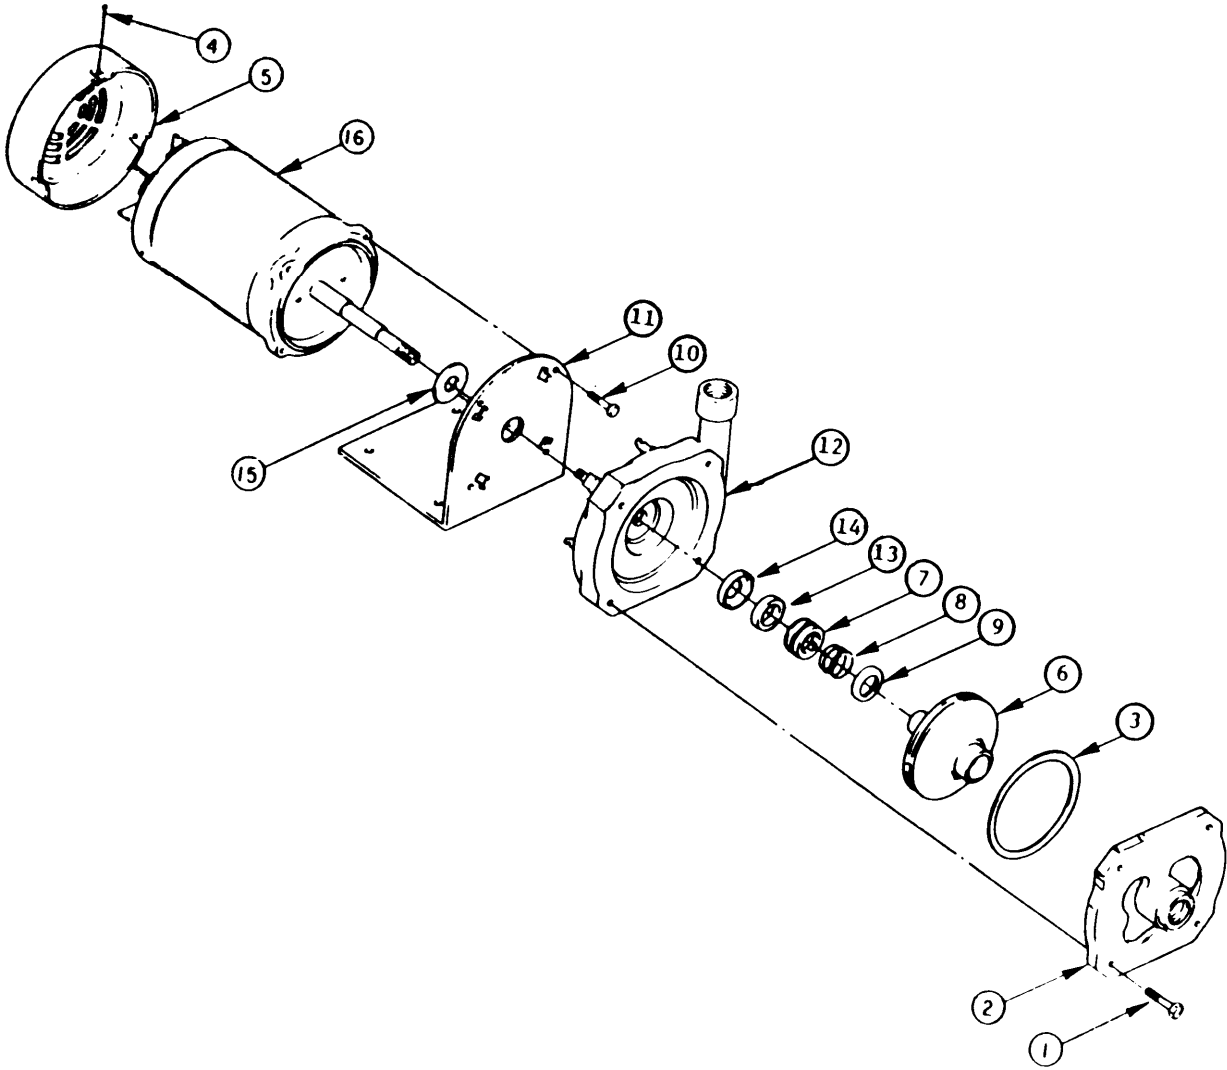

Figure 3-36. Booster Pump/Distribution Pump
b. Disassembly. (Figure 3-36)
(1) If necessary, see paragraph 2-49 to remove booster pump from ROWPU frame or paragraph 2-42 for removal of distribution pump.
- (1) Replace all gaskets, Wings, mechanical seal, stationary seat, stationary seat gasket, and pump slinger.
- (2) Replace all damaged nuts, bolts, screws, and washers.
- (3) Replace all damaged, fractured, or worn springs and spring retainers.
- (4) Repair pump bracket by welding cracks and fractures, or replace bracket if badly damaged.
- (5) Retap threads in suction cover, pump casing, and motor assembly, or replace component part if badly damaged.
- (6) Replace unrepairable pump impeller.
- (7) Repair pump motor assembly in accordance with paragraph 3-10.
- (8) Send unrepairable pump assembly and all replaced component parts to next higher level of maintenance for disposition.
f. Reassembly. (Figure 3-36)
- (1) Install new slinger (15) on shaft of motor (16).